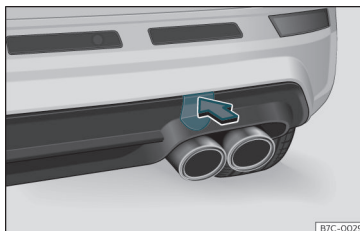

Fig. 86 Rear bumper on right: remove the lid.
The housing of the screw towing eye is on the right side of the rear bumper behind a lid »» Fig. 86. Vehicles equipped as standard with a towing bracket **do not** have any housing for the screw towing eye behind the lid. In this case, the tow hitch needs to be extracted or installed and used for towing
- Press the upper side of the lid »» Fig. 86 to unclip it.